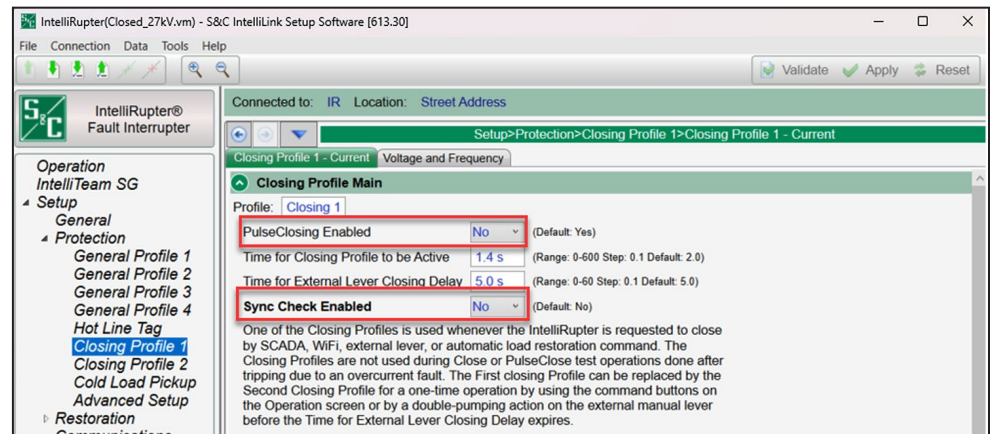

Figure 12. The Closing Profile Main setpoints.
- STEP 4.** Check the settings on the *Protection>Closing Profile 1* screen and adjust them if necessary. See Figure 12.